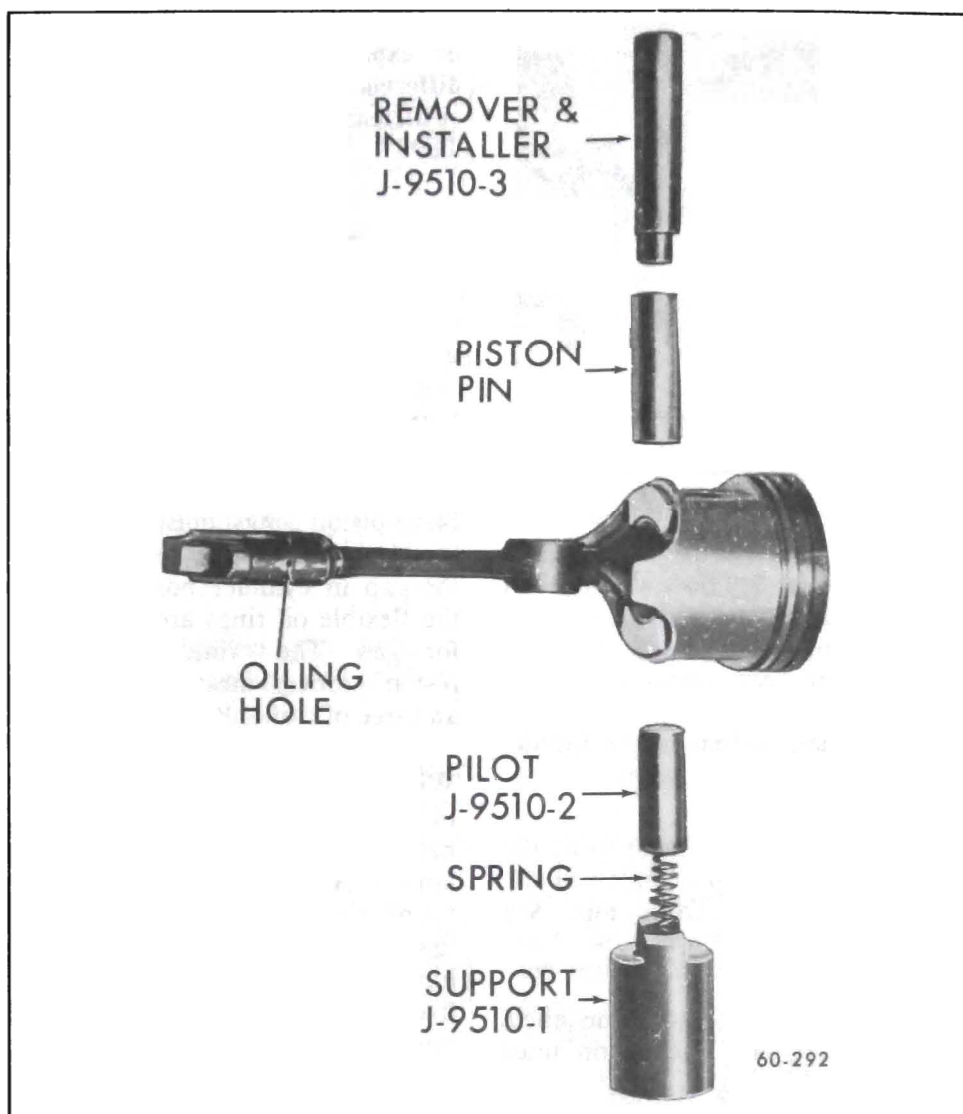

Figure 60-138--Piston Pin and Tool Layout
(a) Place connecting rod and piston assembly in an hydraulic press with piston on support (J-9510-1), then using remover (J-9510-3) press piston pin out. See Figure 60-138.
2. Using Tool J-9510, place support (J-9510-1) with spring and pilot (J-9510-2) in place on an arbor press. See Figure 60-138.